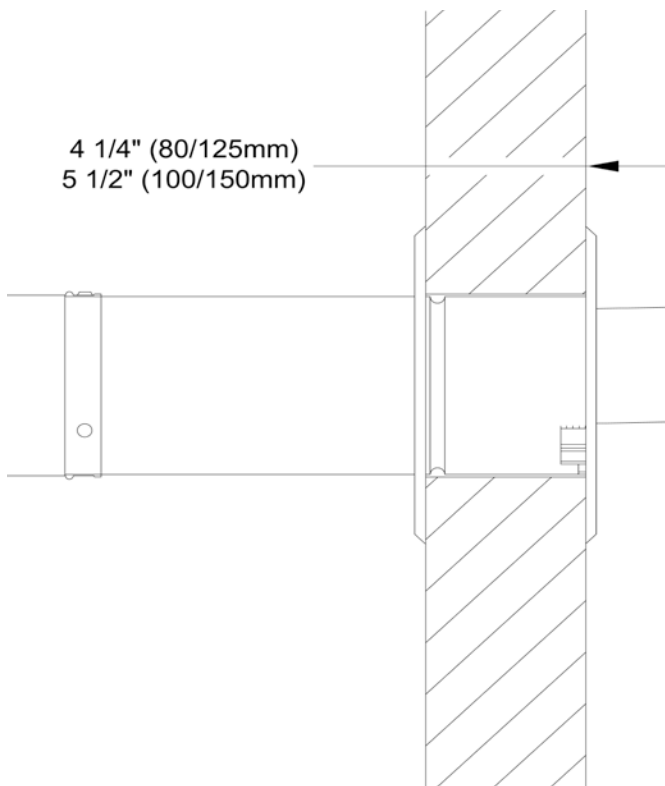

Figure 13: Horizontal (Wall) Terminal Installation
15. For horizontal (side wall) installation, the Horizontal (Wall) Terminal will extend past outer wall surface either by 4-1/4" (80/125 mm), or, 5-1/2" (100/150 mm). See Figure 13 "Horizontal (Wall) Terminal Installation".